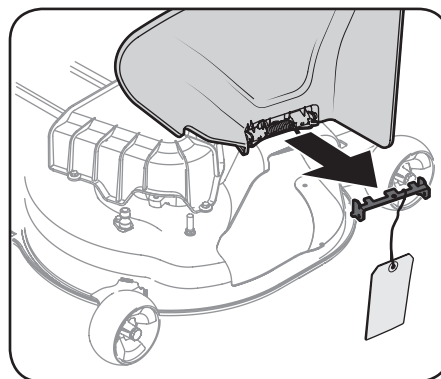

Figure 2-7
7. Holding the chute deflector fully upward, remove the shipping brace. Lower the chute deflector and discard the shipping brace. See Figure 2-7.